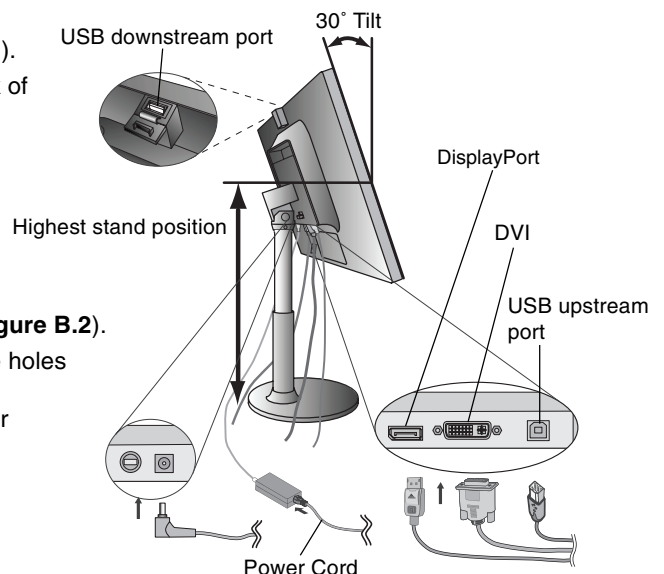
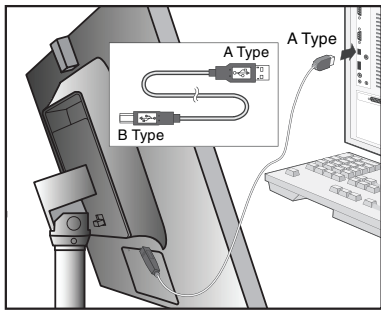

Figure B.1
Figure B.1a
3. Place hands on each side of the monitor to tilt the LCD panel 30-degree angle and lift up to the highest position (**Figure B.1**).
4. Connect all cables to the appropriate connectors on the back of the monitor, plug the captive power cord into the AC adapter (**Figure B.1**). When using the USB cable, connect the B type connector to the USB upstream port on the right back side of the monitor and the A type connector to the downstream port on the computer (**Figure B.1a**). If you can use the cord from the USB device, use the downstream ports on the back-Top side of the monitor.